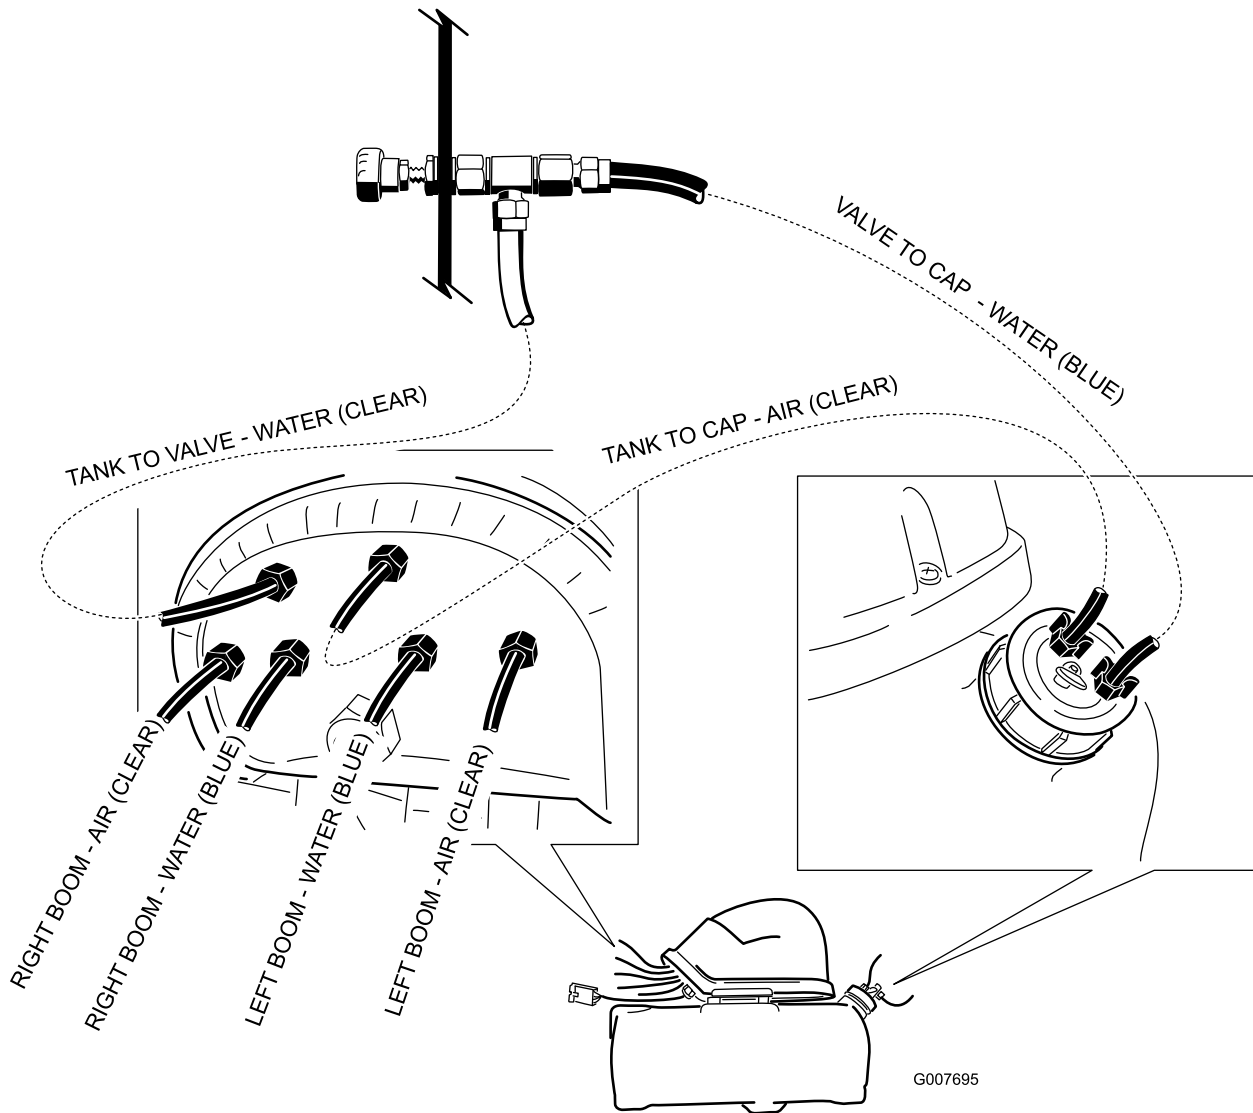

Figure 18
8. The final routing should be as shown in Figure 18.